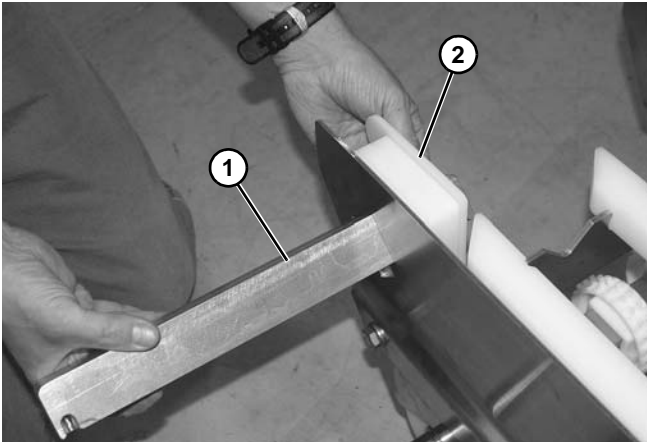

Figure 85
- Remove support bar (**Figure 85, item 1**) and remaining pucks and tracking puck (**Figure 85, item 2**) from frame.